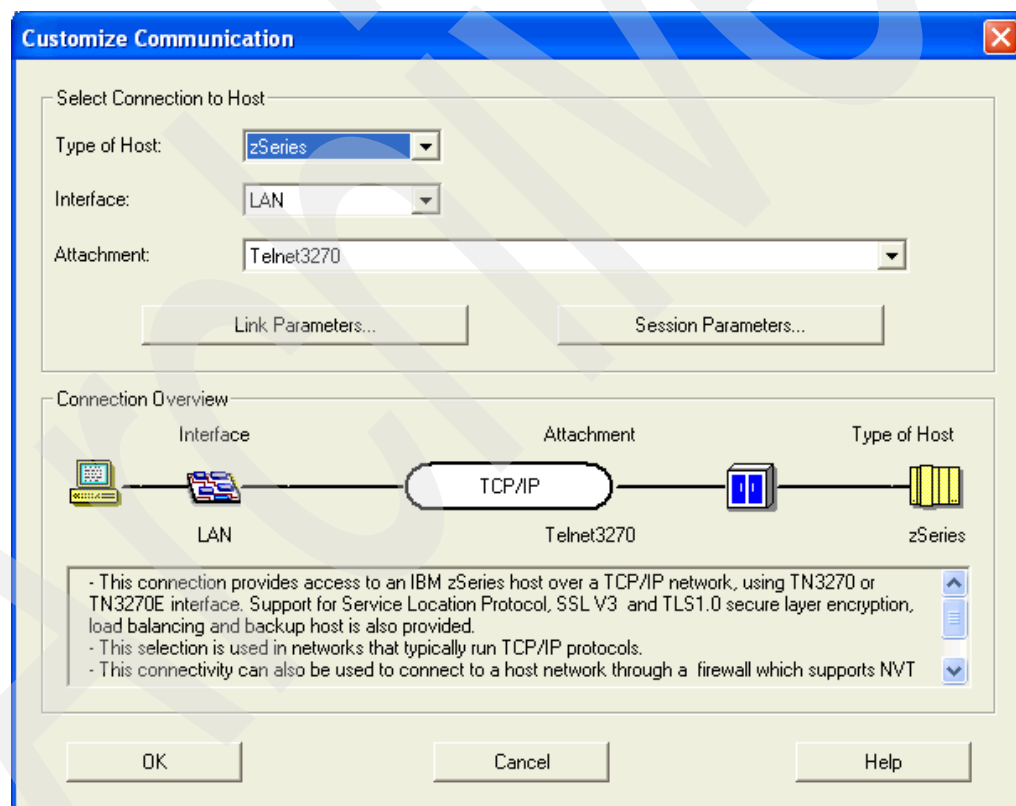

Figure E-1 PCOMM customize communication
3. The Customize Communication panel is displayed (see Figure E-1).